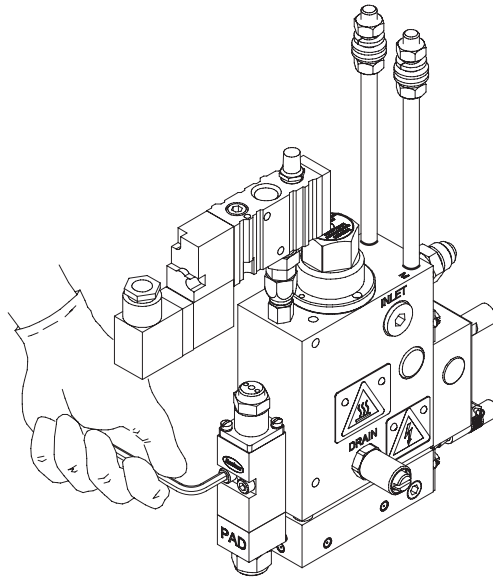

Figure 6-2 Removing a module
4. See Figure 6-2. Remove a module from the adhesive manifold.